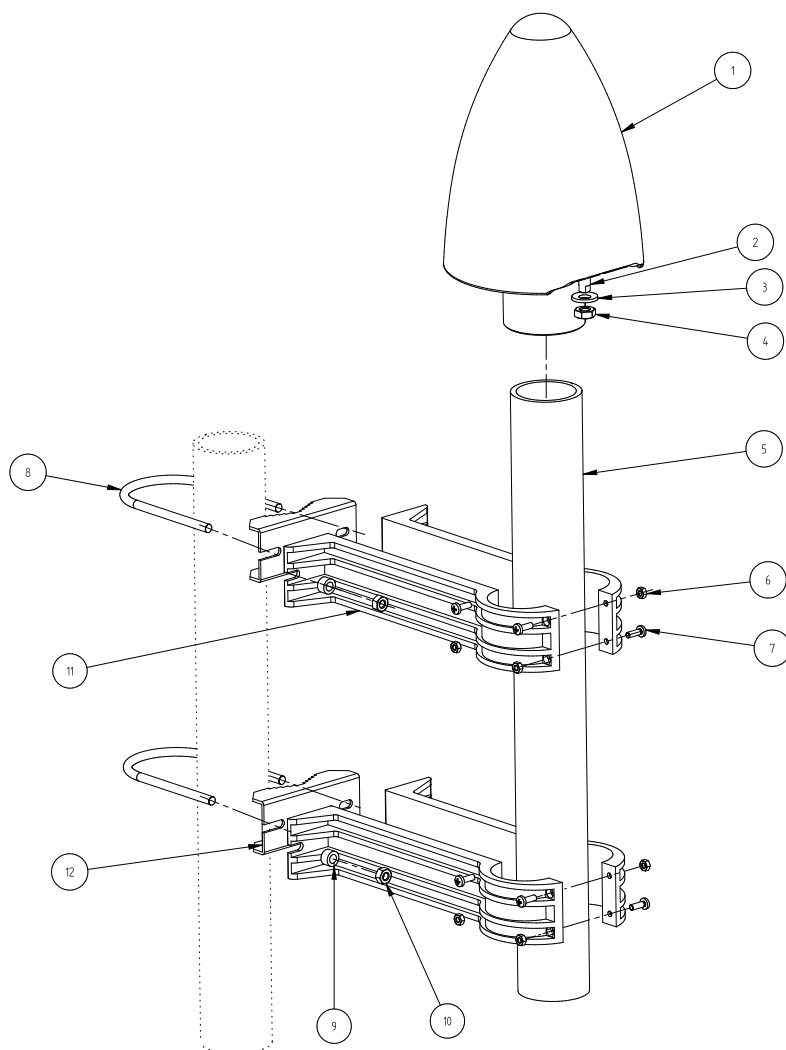

Figure 7.4: Mounting a Meinberg GNSS antenna onto a mast
■ Fig. 7.4 illustrates the installation of a Meinberg GNSS antenna on a mast.
1. Insert the antenna tube (Item 5 in ■ Fig. 7.4) into the designated rounded recesses of the two pairs of antenna tube clamp halves (Item 11). Secure the tube inside each of the two clamps using four M4x12 Phillips screws (Item 7) and corresponding M4 hex nuts (Item 6). To ensure that the tube (Item 5) is as secure as possible, the top and bottom M4x12 screws (Item 7) of each tube clamp should be inserted from opposing directions as shown in ■ Fig. 7.4.